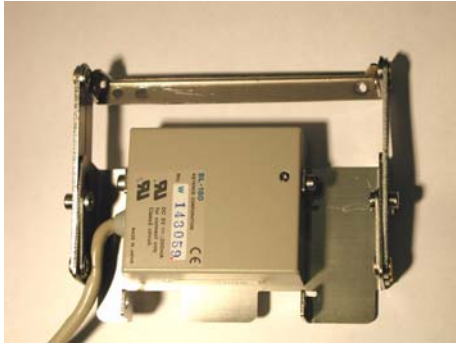

Figure 27 Barcode reader mounting position for portrait position
- 2 Mount the barcode reader on the front position of the mounting plate, as in Figure 27.